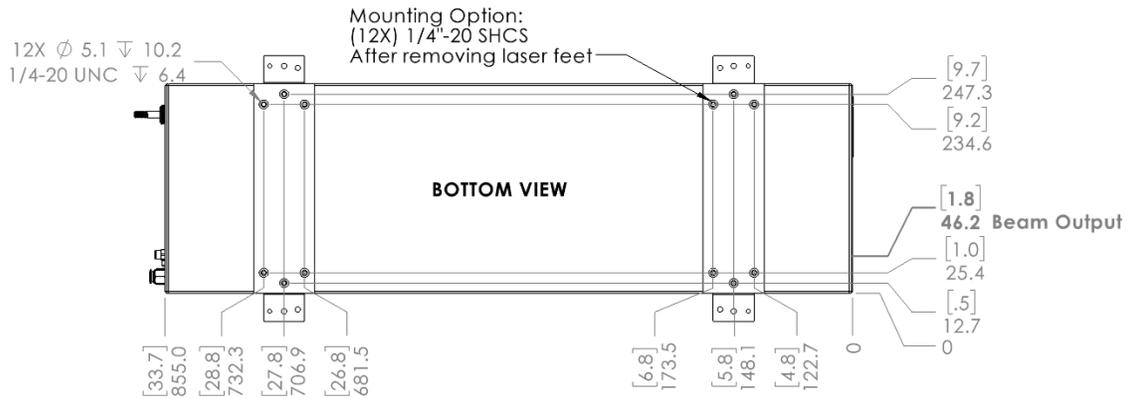

Figure 4.1-3 Bottom Mounting
- (3) bottom-mounted using the tapped holes on the bottom side of the laser, as in Figure 4.1-3